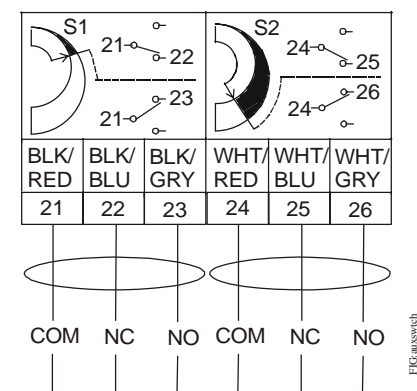
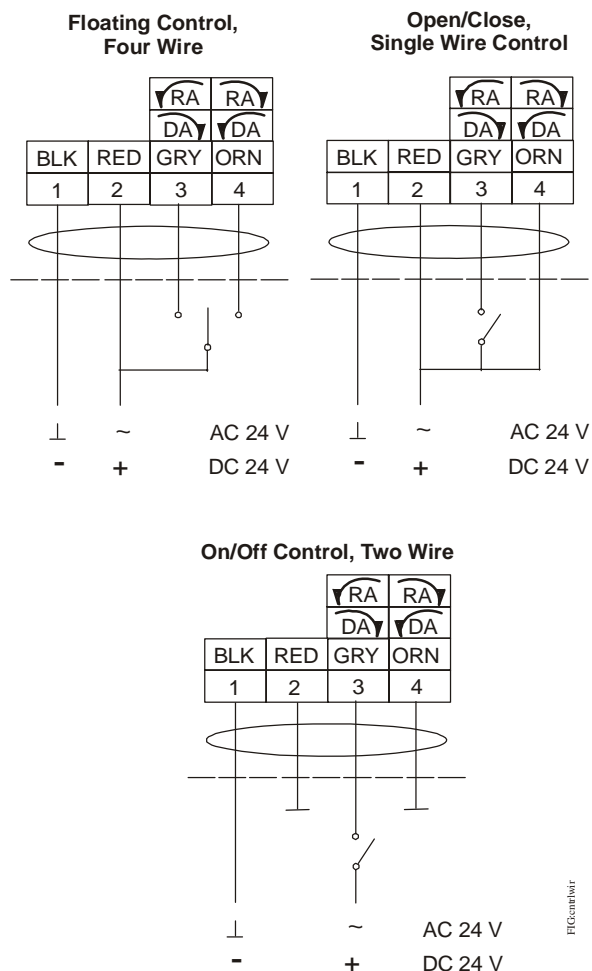

Figure 9: Auxiliary Switch Wiring Diagram for ES89C2-S Model
Figure 10: Control Wiring Diagrams
See Figure 9 and Figure 10 for proper wiring of the ES89C2(-S) Series On/Off Electric Spring Return Actuator.
The ES89C2(-S) Series Floating Electric Spring Return Actuators are factory set at DA, 90° of travel as illustrated in Figure 12. To reverse the rotation, either move the mode selection switch from Direct Acting (DA) to Reverse Acting (RA), or reverse the control input wiring to GRY 3 and ORN 4 (as illustrated in Figure 10).